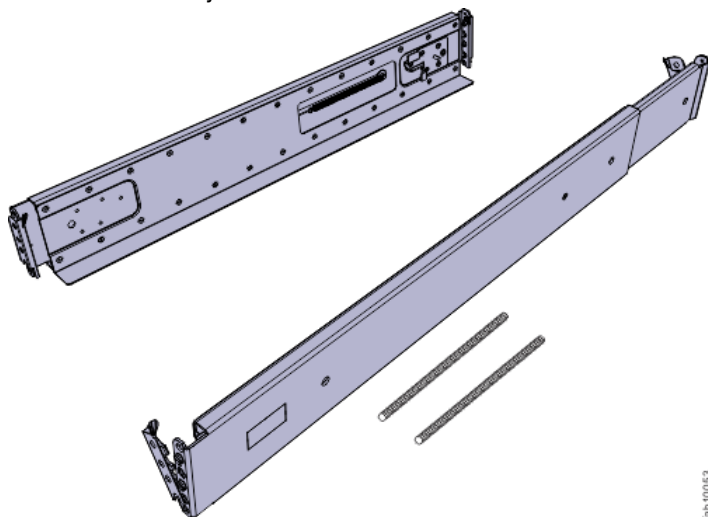

Figure 35. Expansion enclosure support rails
1. Locate the expansion enclosure rails (Figure 35 on page 78).